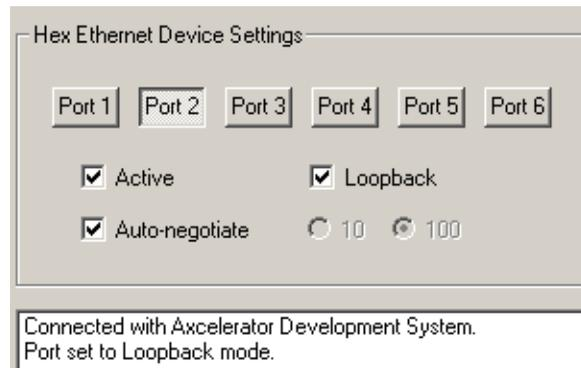

Figure 2-21. Port Set to LoopBack Mode Window
- Put Port 2 in loop-back by clicking on the loop-back check box for this port.** The port is set for Loopback mode. Leave other Port 2 settings in their default state (Auto-negotiate and Active). See Figure 2-21.